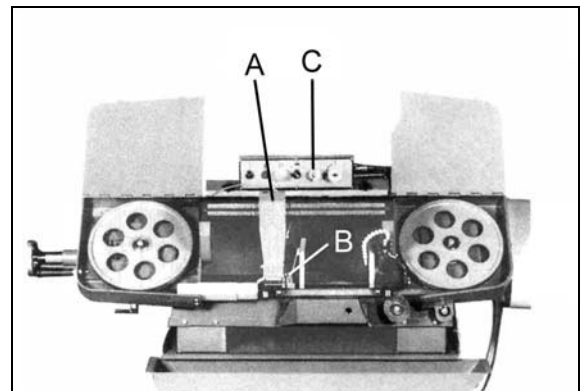

Fig. 11
5. Make sure the left blade guide bracket (A) is adjusted as close as possible to the left vise jaw (B) Fig.11.
6. Turn the oil regulating micro switch (C) Fig.11, counter-clockwise until the saw blade begins to lower by the desired rate.
7. Proceed to cut through the workpiece, as shown in Fig.11. The machine will shut off upon completion of cut.